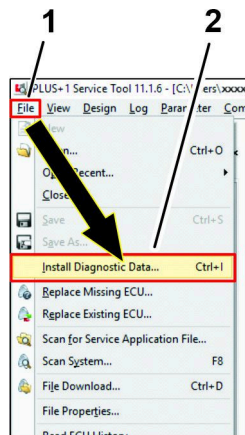

Figure 47
1. Click the FILE icon, and in the drop-down list, click the INSTALL DIAGNOSTIC DATA . . . icon (Figure 47).